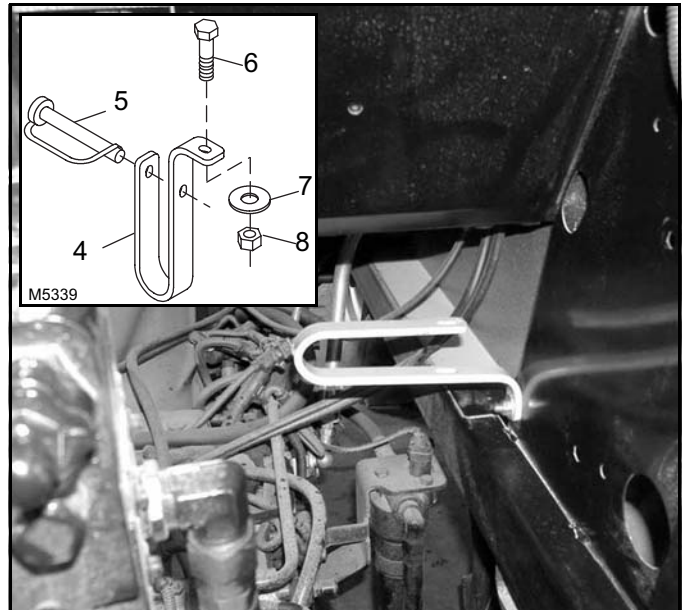

**Figure 14.** 1020/1027 Loader Feedline Connections
2. Connect loader supply hoses to loader feedlines as shown in Figure 14.